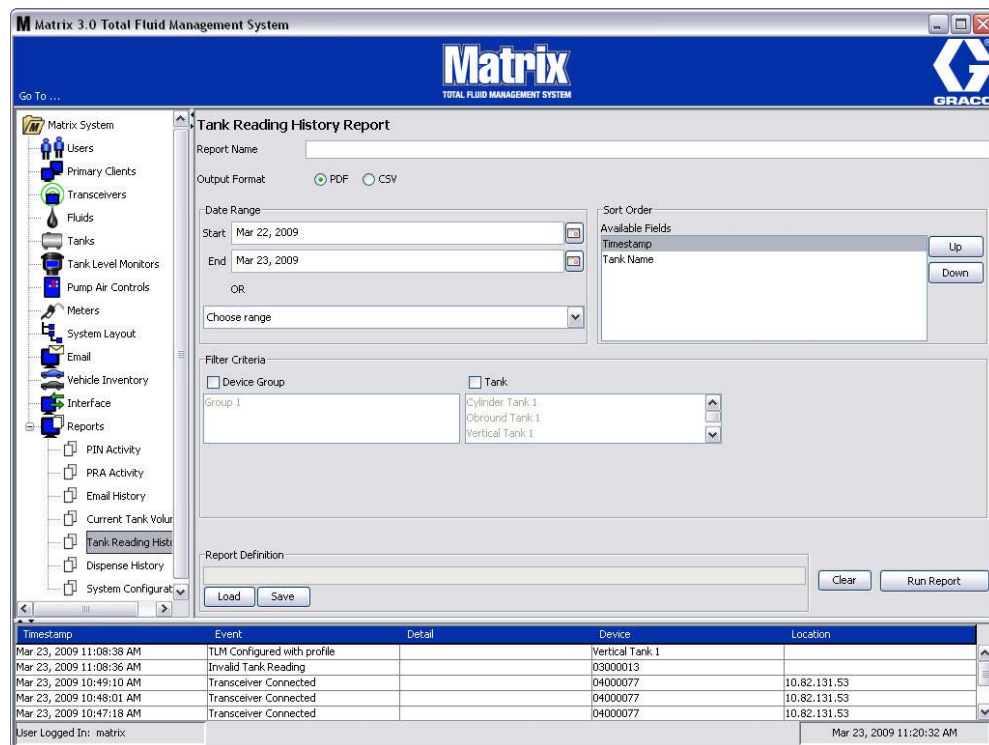

FIG. 194
- **Tank Reading History (FIG. 194)**